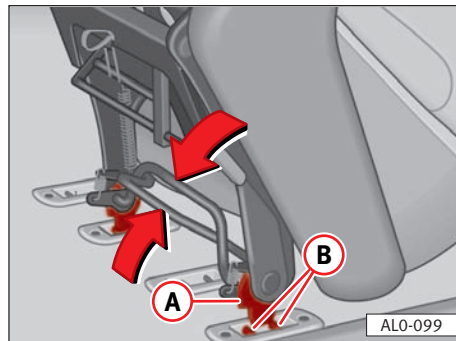

Fig. 100
- Squeeze the two bars under the seat together ⇒ arrows, fig 100 and hold.
- Position the seat frame ⇒ fig 100 (A) between the retaining pins ⇒ fig 100 (B) in the floor mounting points and release the two bars.
- **Vehicles with 6 seats:** seat (2) has a lap belt and can be fitted in the position of seat (3). If the vehicle has a three-point seat belt for seat (3), seat (5) can be fitted in the position of seat (3). To do this, the armrests of seats (1), (2) and (4) should be removed ⇒ page 108.